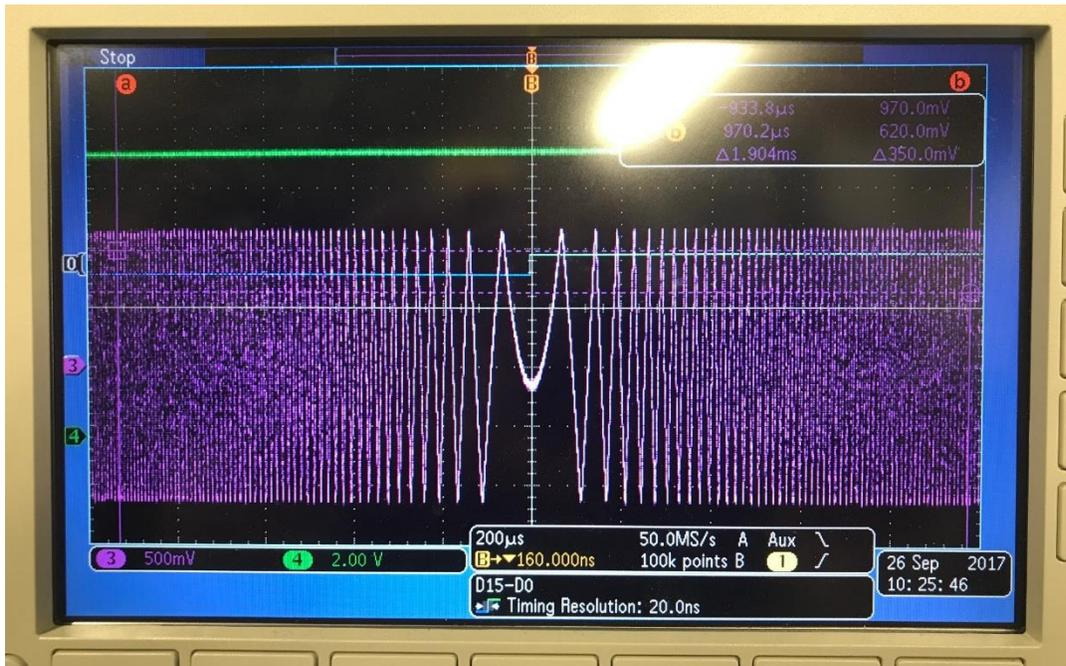

Figure XIV.5 Scope shot showing the Transition Trigger at the predicted frequency.
5. Monitor the output of the phase detector on the scope and set the frequency of the signal generator sinewave to 52.220000 MHz. The scope should look like Figure XIV.5.